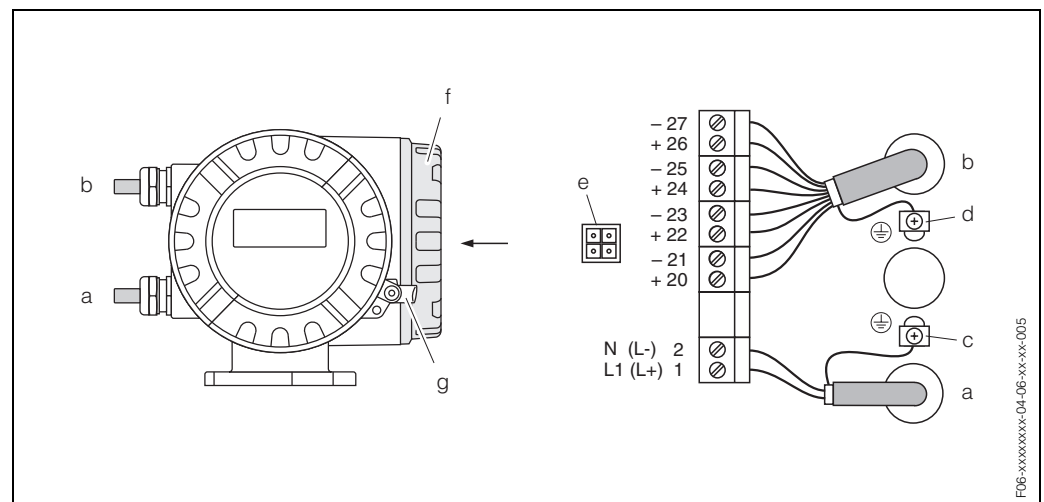

Fig. 29: Connecting the transmitter (aluminium field housing). Cable cross-section: max. 2.5 mm²
- Wiring diagram (aluminium housing) → Fig. 29